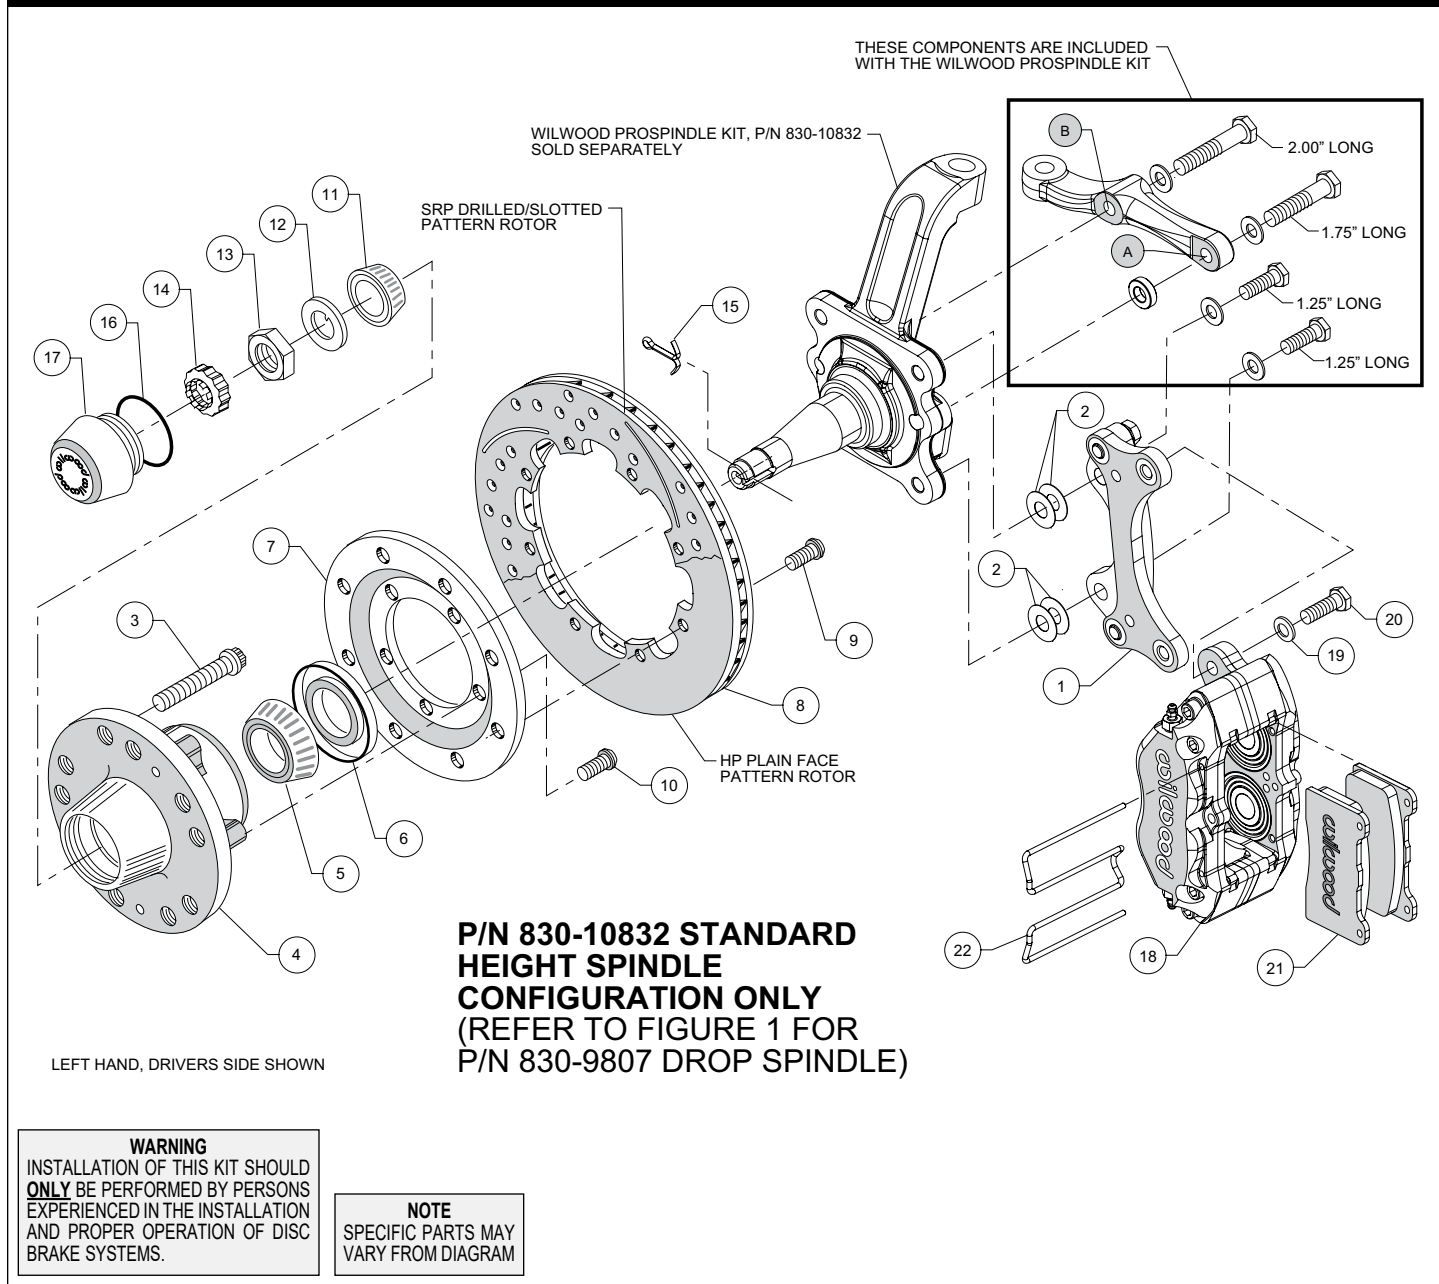

Figure 2. Installation Configuration For Standard Height Spindle, P/N 830-10832
- Orient the bracket as shown in Figure 2 and Photo 2. Install using 1.25" long bolts and .06" thick washers (from ProSpindle kit), and two .016" thick shims (2) on each bolt between the bracket and spindle, Figure 2. Temporarily tighten mounting bolts.
- Orient the steering arm, and identify the hole marked 'A', as shown in Figure 2. Install using 1.75" long bolt, .06" thick washer, and .30" thick spacer (all from ProSpindle kit), Figure 2.
- Finish attaching the steering arm through the hole marked 'B', as shown in Figure 2. Install using 2.00" long bolt and .06" thick washer (from ProSpindle kit), Figure 2.
- Install wheel studs (3) into the hub (4), Photo 3. Torque to 77 ft-lb. **NOTE:** There are two lug patterns of five holes each in the hub (5 x 4.50 and 5 x 4.75). Make sure of the correct hole pattern for the wheel application before installing the studs into the hub.
- Pack the large inner bearing cone (5) with high temperature disc brake bearing grease (available from your local auto parts store) and install into the backside of the hub (4), Photo 4.
- Install the grease seal (6) by pressing into the backside of the hub (4), flush with the end of the hub, Photo 4.